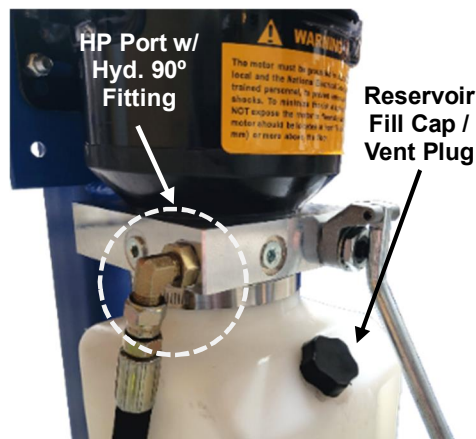

Fig. 8
- 3) Using the **Hydraulic 90° Fitting** from the hardware box, install to the **HP Port** on power unit. **Fig. 8.**
- 4) Locate the **Hydraulic Hose** from the hardware box and connect one end to the **Hydraulic 90° Fitting** installed on power unit. **Fig. 8.**
- 6) Remove Fill Cap / Vent Plug to add **Hydraulic Oil (SAE-10, AW 32)** to **115V Power Unit Reservoir Tank**, Add to Min. Fill line on Drip Stick, approx. **1.5 gallons (6 quarts)** **Fig. 8.** **NOTE: Do Not Use ATF!!**